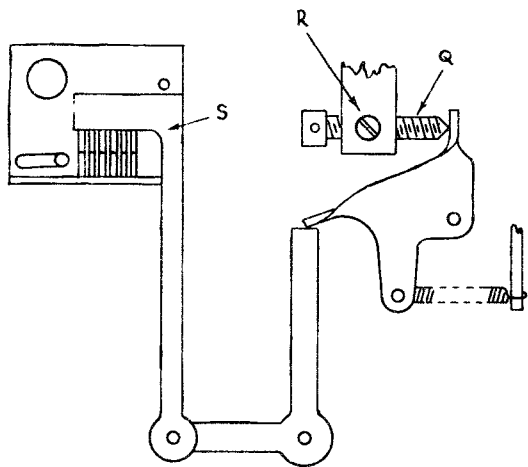

FIG. 9
18. WHEN FINGERS ARE RESET BY THE LINK S (FIG 9) THE DIMENSION "V" (FIG 10) SHOULD BE SATISFIED. ADJUST BY TRIP SCREW Q, CLAMPING BY SCREW R. FINGER SHOULD THEN HAVE A FURTHER MOVEMENT OF 0.005".